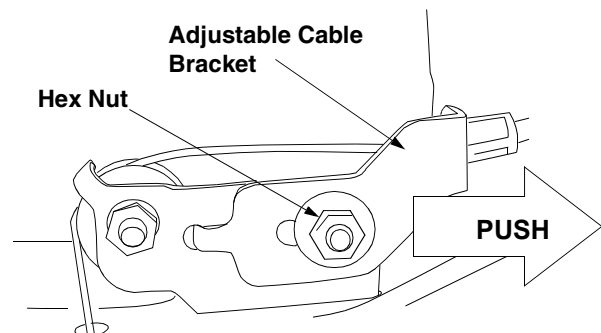

Figure 15
The adjustable cable bracket is located on the left side of the mower beside the engine. See Figure 15
- Loosen hex nut which secures the adjustable cable bracket. See Figure 15.